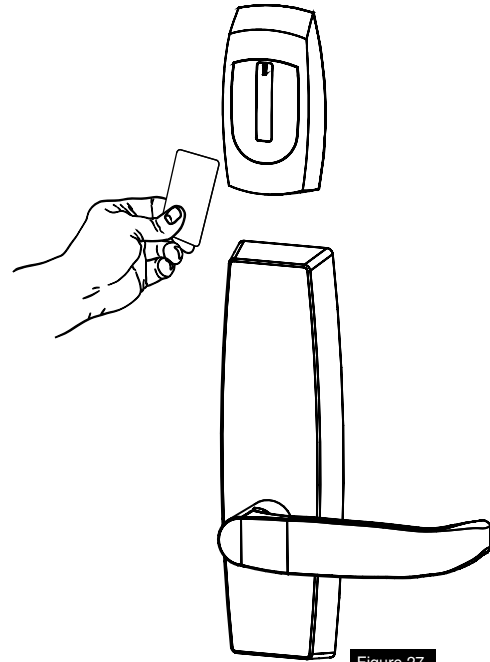

Figure 27
5. Verify system operation functions; i.e., when credential is presented to reader that door unlocks. (Figure 27)